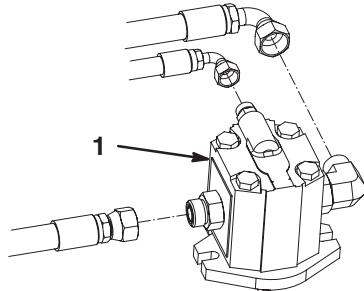

Figure 6
1. Lift arm ball joint mount (2)
- Disconnect the hydraulic hoses from the fittings on the hydraulic motor (center deck only) (Fig. 6).